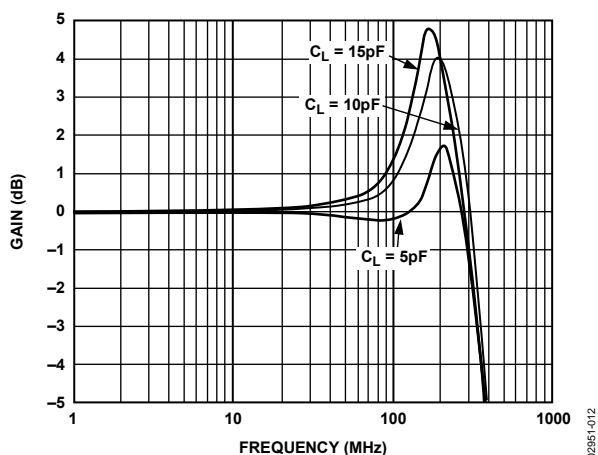
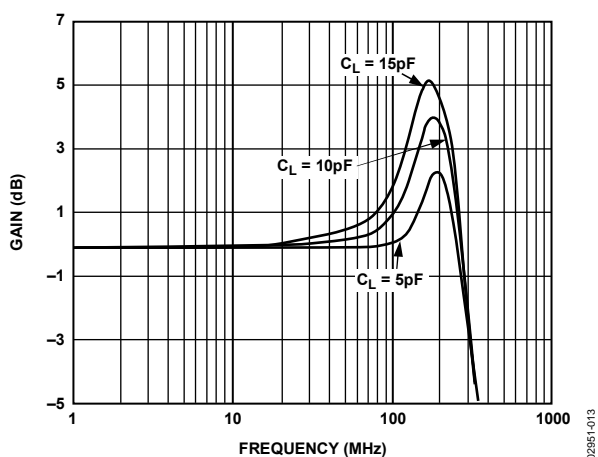

Figure 12. Small Signal Frequency Response for Various C_L , $V_{OUT} = 500\text{ mV p-p}$, $V_S = \pm 5\text{ V}$, $G = +1$
Figure 13. Small Signal Frequency Response for Various C_L , $V_{OUT} = 500\text{ mV p-p}$, $V_S = 5\text{ V}$, $G = +1$
- Put a small value resistor in series with the output to isolate the load capacitor from the output stage of the amplifier, see Figure 12, Figure 13, Figure 27, and Figure 28.